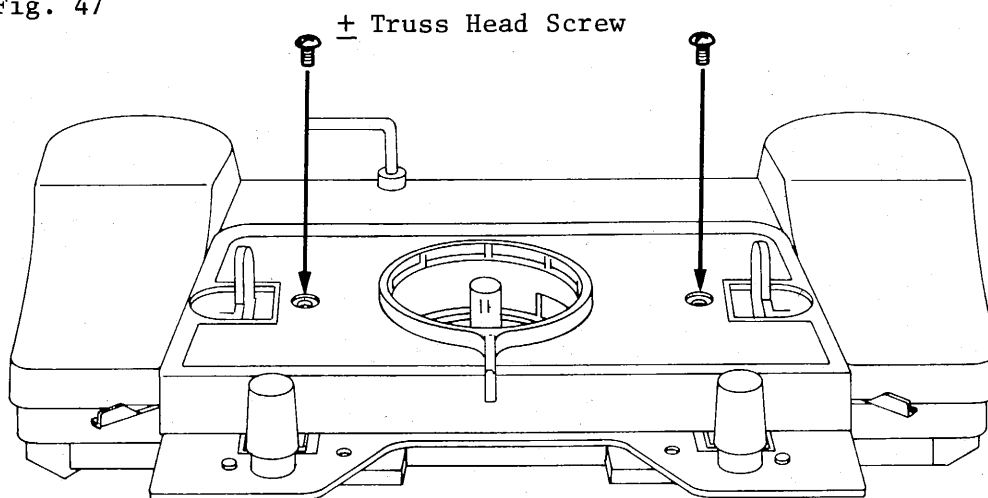

Fig. 47
- (5) Secure Carriage Cover A with two $\pm$ truss head screws (3x6) as indicated in Fig. 47